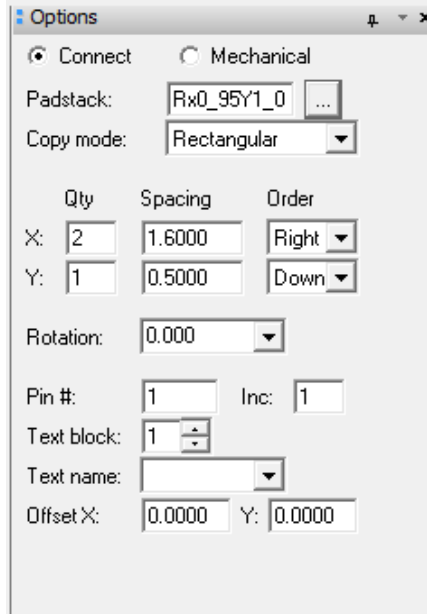

Fig. 7
9. Choose GRM188R61C474KA93 for 'padstack', input 1.6 in the 'Spacing' box in the 'x' row, and 0.5 in the 'Spacing' box in the 'y' row, as shown in fig. 7.